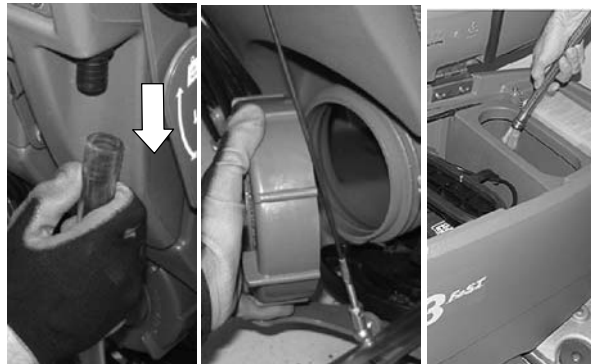

FIG. 40
4. Drain the solution tank and rinse out the inside with hot water, 60°C (140°F) maximum temperature, as needed (Figure 40)